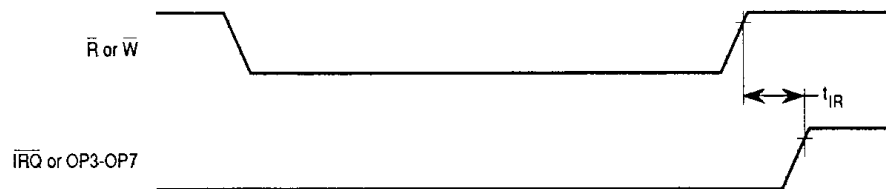

Figure 6. Interrupt Timing
**AC ELECTRICAL CHARACTERISTICS — INTERRUPT TIMING** (see Figure 6)